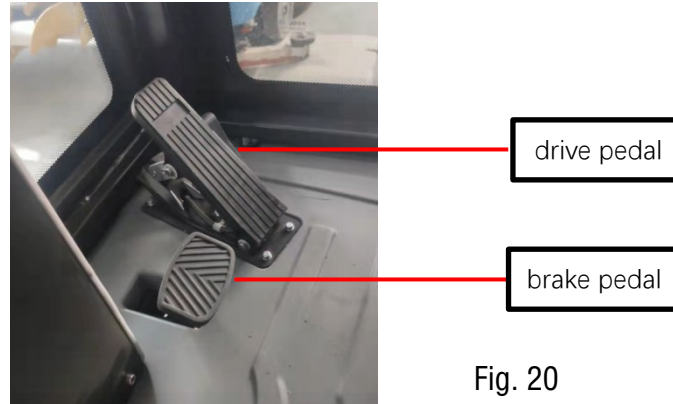

Fig. 20
- When the “Forward” button  is pressed and the driving pedal is depressed (Fig. 20), the sweeper will move forward. Adjust the speed by changing the pressure on the pedal.
- In case of emergency, press the brake pedal to stop the sweeper (Fig. 20).